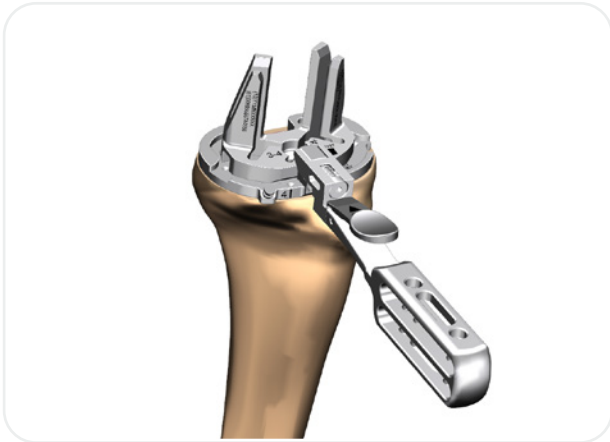

Figure 42
4. Lower the guide onto the trial until it makes contact and locks into place (**Figure 42**). In some cases a slight pull-back on the quick connect handle may be needed to fully lock and seat the guide into place.